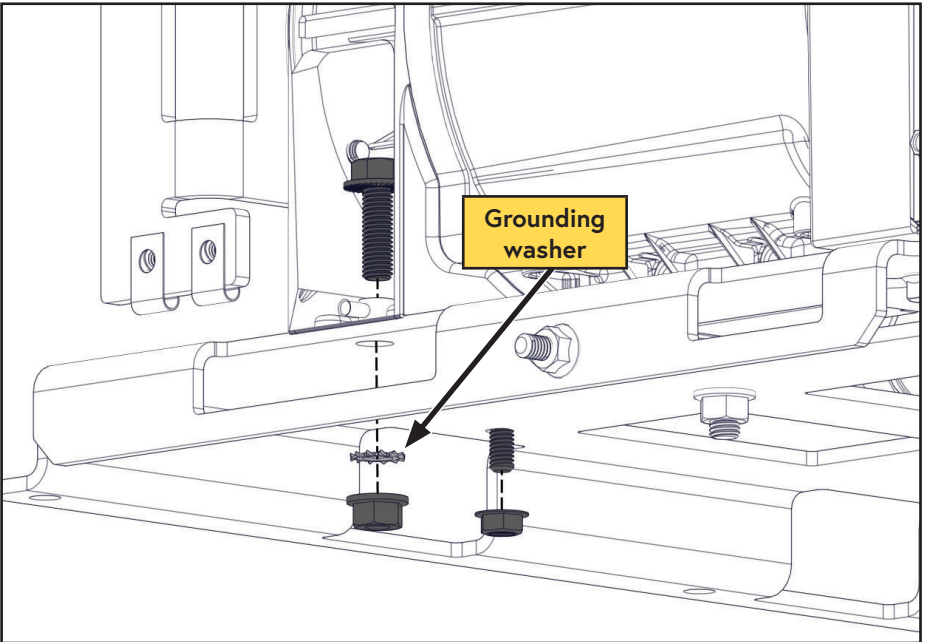

Figure 85 — Remove rear generator fasteners
- ☐ Taking note of the location for the star grounding washer, remove the rear generator fasteners (Figure 85).